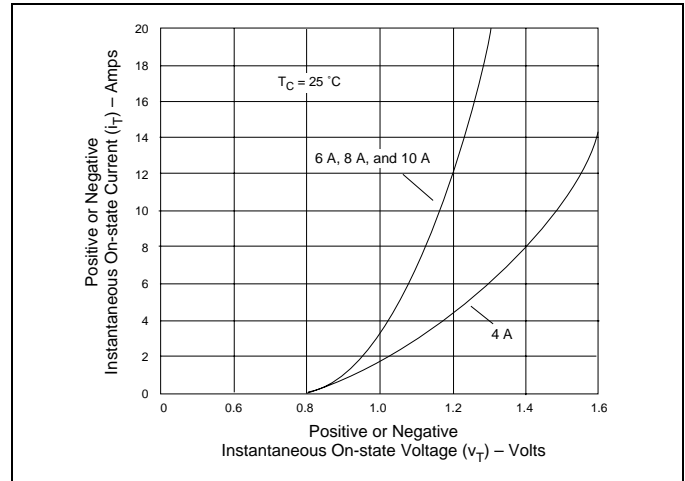
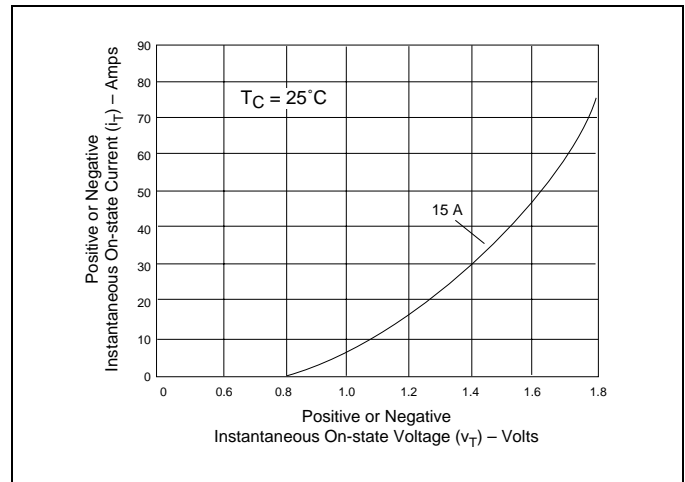

Figure E3.4 On-state Current versus On-state Voltage (Typical) (4 A to 10 A)
Figure E3.5 On-state Current versus On-state Voltage (Typical) (15 A)
- (3) See Figure E3.4 and Figure E3.5 for i_T versus v_T.